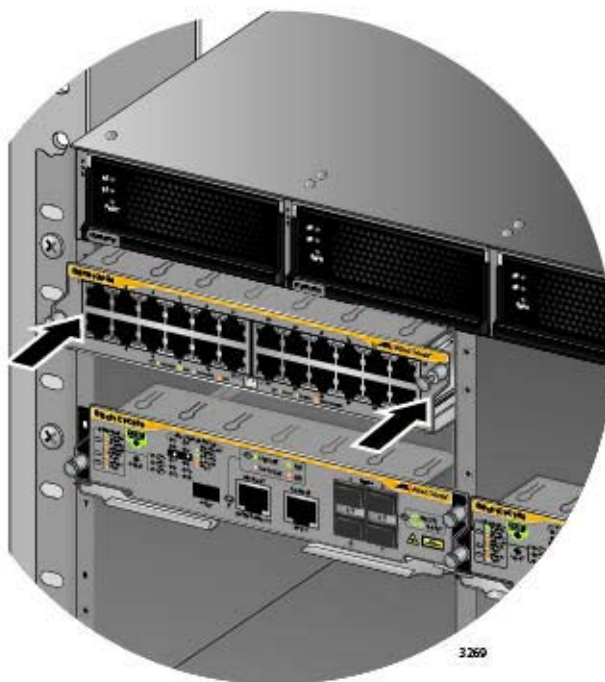

Figure 74. Seating an Ethernet Line Card on the Backplane Connector
6. When you feel the line card make contact with the connector on the backplane of the chassis, gently press on both sides of the faceplate to seat the card on the connector. Refer to Figure 74.